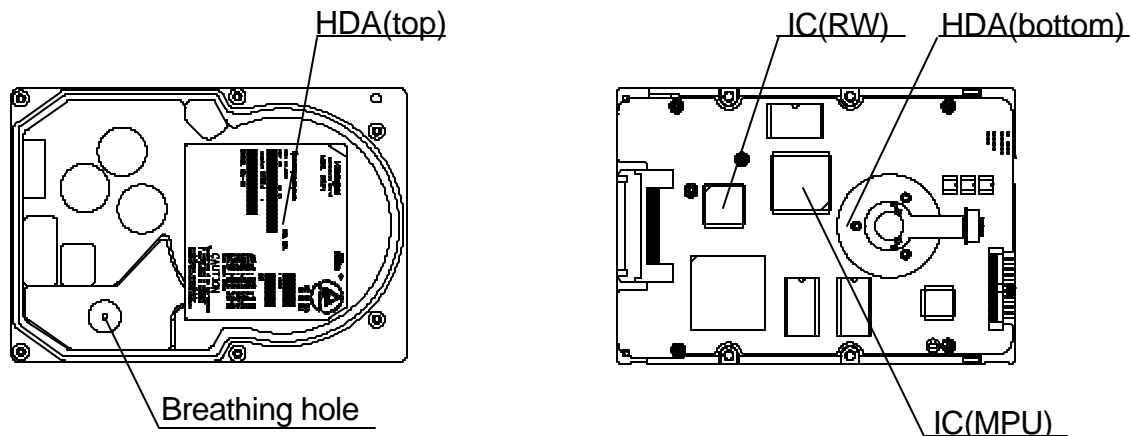

Figure 8.4 Temperature Measurement Points
- 9.4.8 Do not cover the breathing hole on the surface of the drive with use of a seal. (The position of the breathing hole is shown in Figure 8.4.)